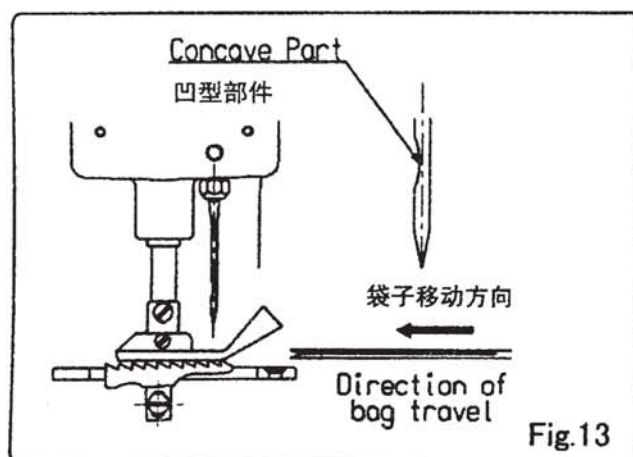

Fig.13
2. Confirm proper direction of Needle ⑤ when Needle Bar ⑩ has been adjusted (Refer to Fig.13).
- 2) A bent or damaged needle results in thread break, skipping stitches, and other troubles. Replace it with a new one in the steps below. Install a new needle referring to figures 13 and 14. To remove the needle, turn pulley by hand until the needle bar reaches its highest position. Turn the needle clamp nut in the arrow mark using the spanner included in the accessory. You can now remove the needle from the needle bar. Two important points must be observed when you install a new needle.
- The shaved part of the needle must face the leading direction of the machine (Fig.13).
- 2) 缝针弯曲或损失将引起断线或跳针, 请参照Fig.13/14更换机针。要取下缝针, 需要用手转动皮带轮, 直到缝针杆达到最高位置。使用随机提供的附件包中的扳手, 在箭头方向上转动缝针夹。此时, 你可以从针杆上取下缝针。
- 缝针的凹陷部位必须面向机器的前方(图.13)。